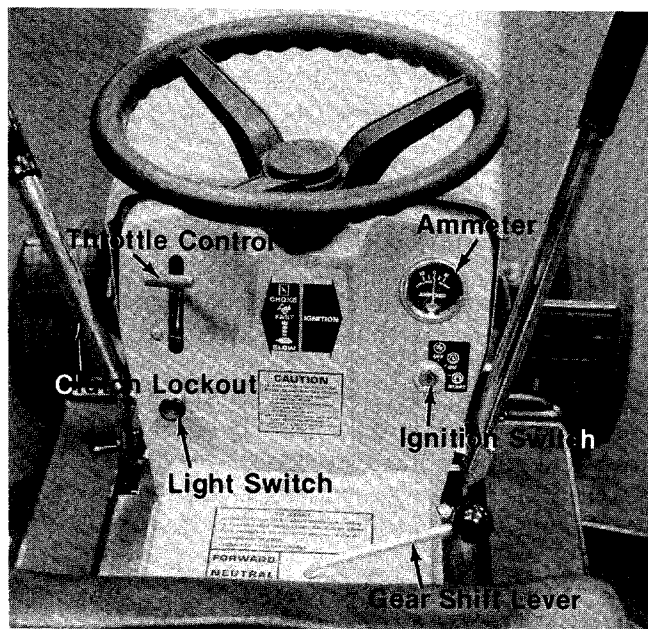

FIGURE 6.
a. **Throttle Control.** The throttle control is used to regulate the engine speed and choke the engine. The engine should be operated from  $\frac{3}{4}$  to full throttle when operating the cutting deck or snow thrower (optional). See figure 6.
b. **Gear Shift Lever.** The gear shift lever is used to shift into one of four **Forward Gears**, "NEUTRAL" or "REVERSE." See figure 6.
h. **Ammeter.** The ammeter registers the rate of battery charge or discharge. The ammeter should register on the plus side (+) when the engine is running the fast position until the battery is completely charged. With a fully charged battery or with the engine idling the ammeter will not show a charge. See figure 6.
i. **Light Switch.** Pull the light switch out to turn on the lights. The lights will only operate when the engine is running. See figure 6.
**Electric Start.** See figure 6. Turn the key to the "START" position to start the engine. When the engine is running, let the key return to the "ON" position. To stop the engine, turn the key to the left to the "OFF" position and remove it to prevent accidental starting.
4. Set the throttle control in the "CHOKE" position. See figure 6.
See figures 6 and 12. Turn the ignition key to the "START" position. When the engine is running, let the key return to the "ON" position.